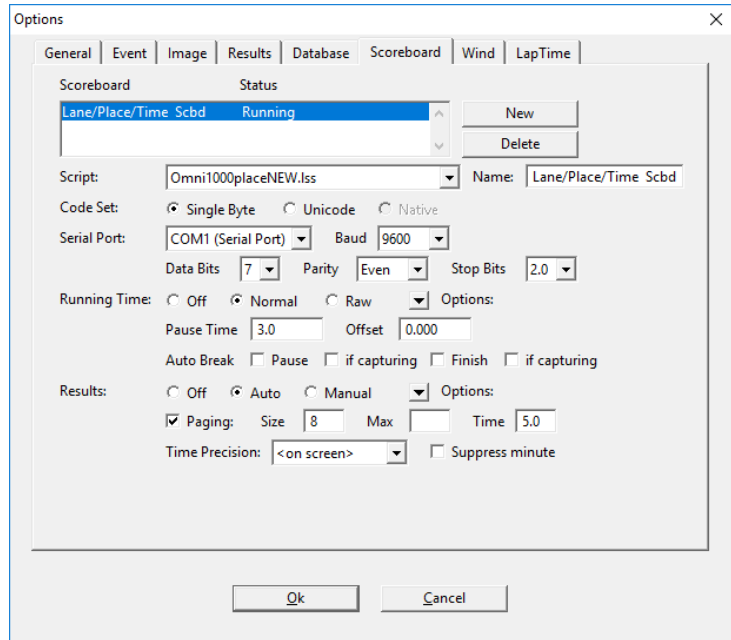

Figure 10: Scoreboard Options for Lane/Place/Time
4. Set up the options on the FinishLynx computer as follows (refer also to **Figure 10**):